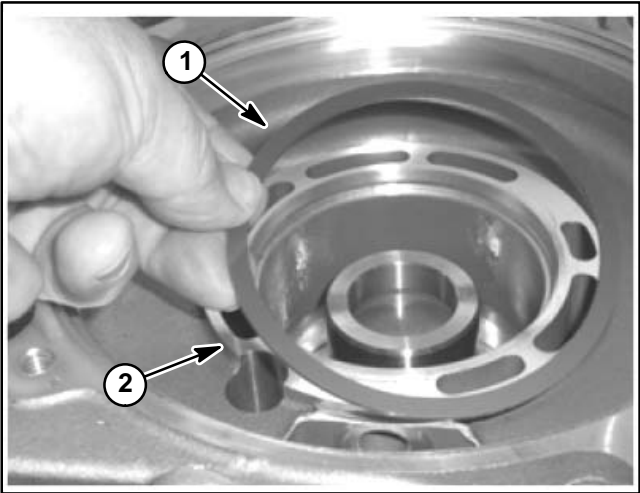

Figure 16
10. Remove the gear shim from between the gear case and the ring gear location (Fig. 16).